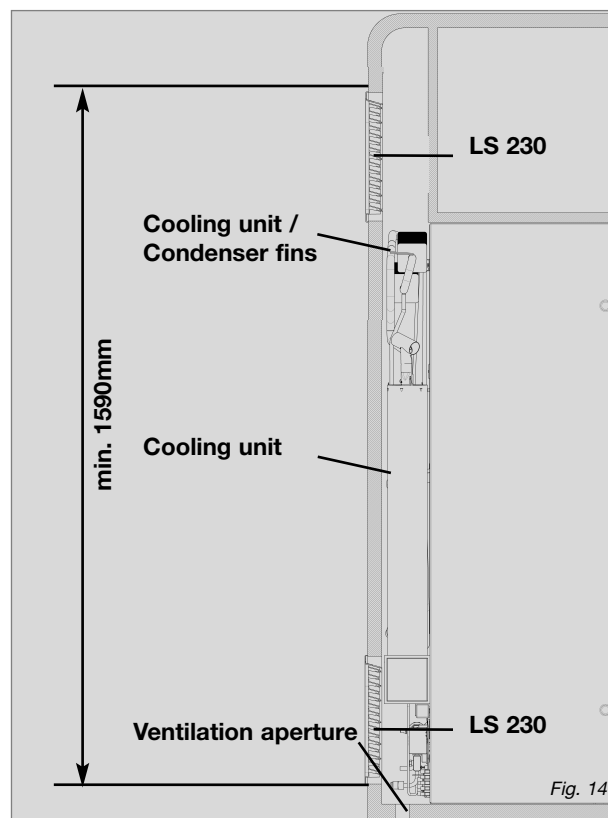
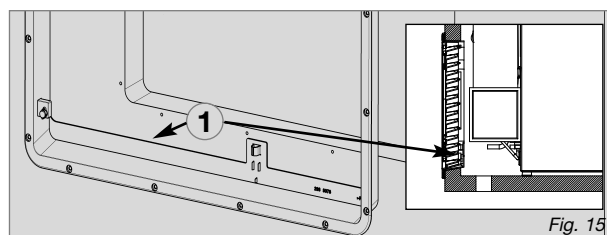

Fig. 14
Fig. 15
The ventilation grilles must have an open cross-section of at least 380cm². This is achieved by using the Dometic LS 230 absorber ventilation and air extraction system which has been tested and approved for this purpose. **The upper ventilation grille should be positioned as high as possible above the cooling unit (Fig. 14). Install the lower ventilation grille at floor level of the vehicle (Fig. 14), allowing unburnt gas (heavier than air) to escape directly into the open air. The gas burner must be located above the edge (1). Should this arrangement prove impossible, a ventilation aperture must be introduced by the manufacturer of the vehicle into the recess floor in order to avoid the accumulation of unburnt gas on the floor (Fig. 15).**